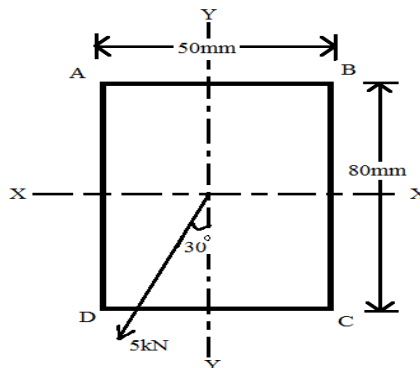

Figure: 2
b) A rectangular-section beam $80\text{ mm} \times 50\text{ mm}$ is arranged as a cantilever 1.3 m long and loaded at its free end with a load of 5 kN inclined at an angle of 30° to the vertical as shown in Figure 2. Determine the position and magnitude of the greatest tensile stress in the section. Take $E = 210\text{ GN/m}^2$. [4+6]